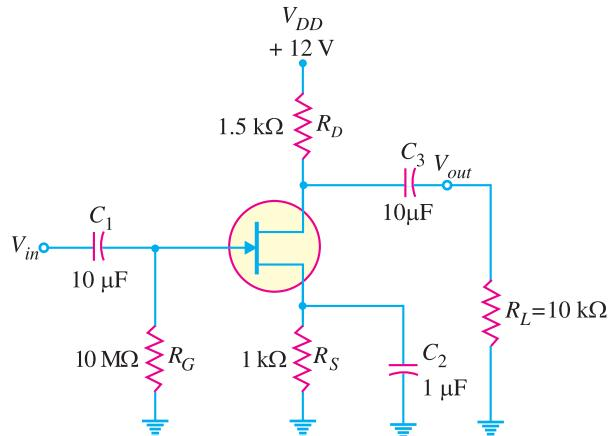

Fig. 19.68
10. If a  $50 \text{ mV}$  r.m.s. input signal is applied to the amplifier in Fig. 19.68, what is the peak-to-peak output voltage? Given that  $g_m = 5000 \mu\text{S}$ . [920 mV]